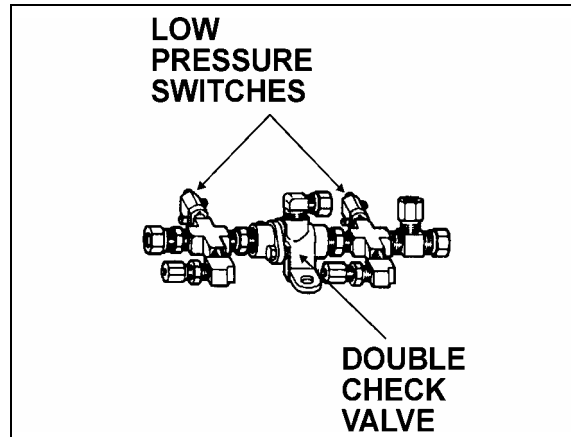

FIGURE 21: DC-4 12079
1. Replace the linkage, loosen threaded rod lock nuts and screw or unscrew the threaded adjustment rod in order to obtain a 45° brake pedal inclination (Fig. 21).